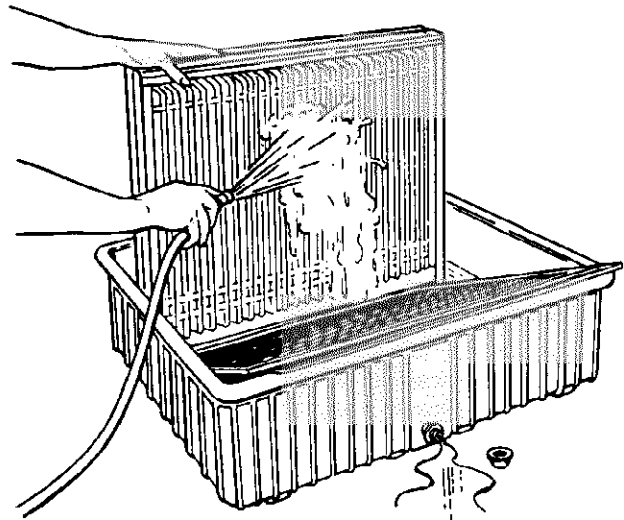

Figure 24
- b. With a hose, rinse with warm water. (See figure 24.)